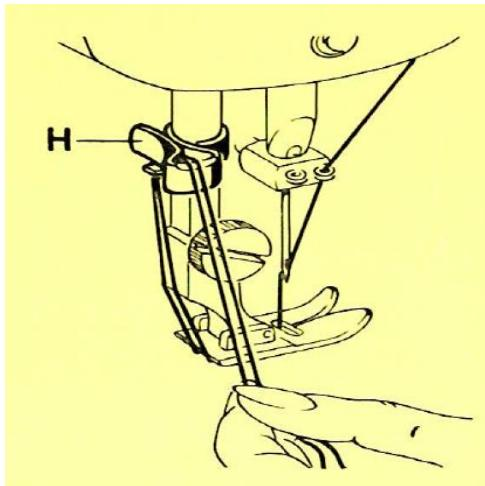

Figure 30
- Push button R (figure 30) as far as it will go. The machine will then sew in reverse with the same stitch length as previously regulated. Button R is to be pressed down with a finger all the time during which reverse sewing is desired. As soon as button R is left free, the machine resumes sewing forward with the same stitch length.
- Draw threads, keeping them taut through thread cutter H (figure 30) cut them and remove the fabric.